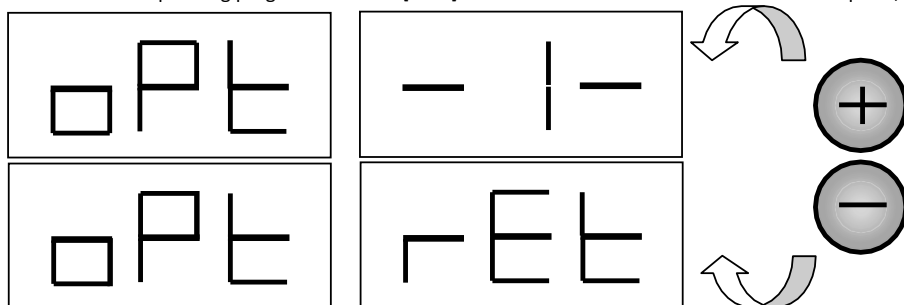

Fig. F5.1 Access to the Optimisation programme
1. Press [F+P4] . The display will show the options shown in figure F5.1. Press [P4]  or [P5]  and choose the option `oPt-1-` to continue, or the option `oPt rEt` to return to the operating programme. Press [F+P4]  to confirm the chosen option;